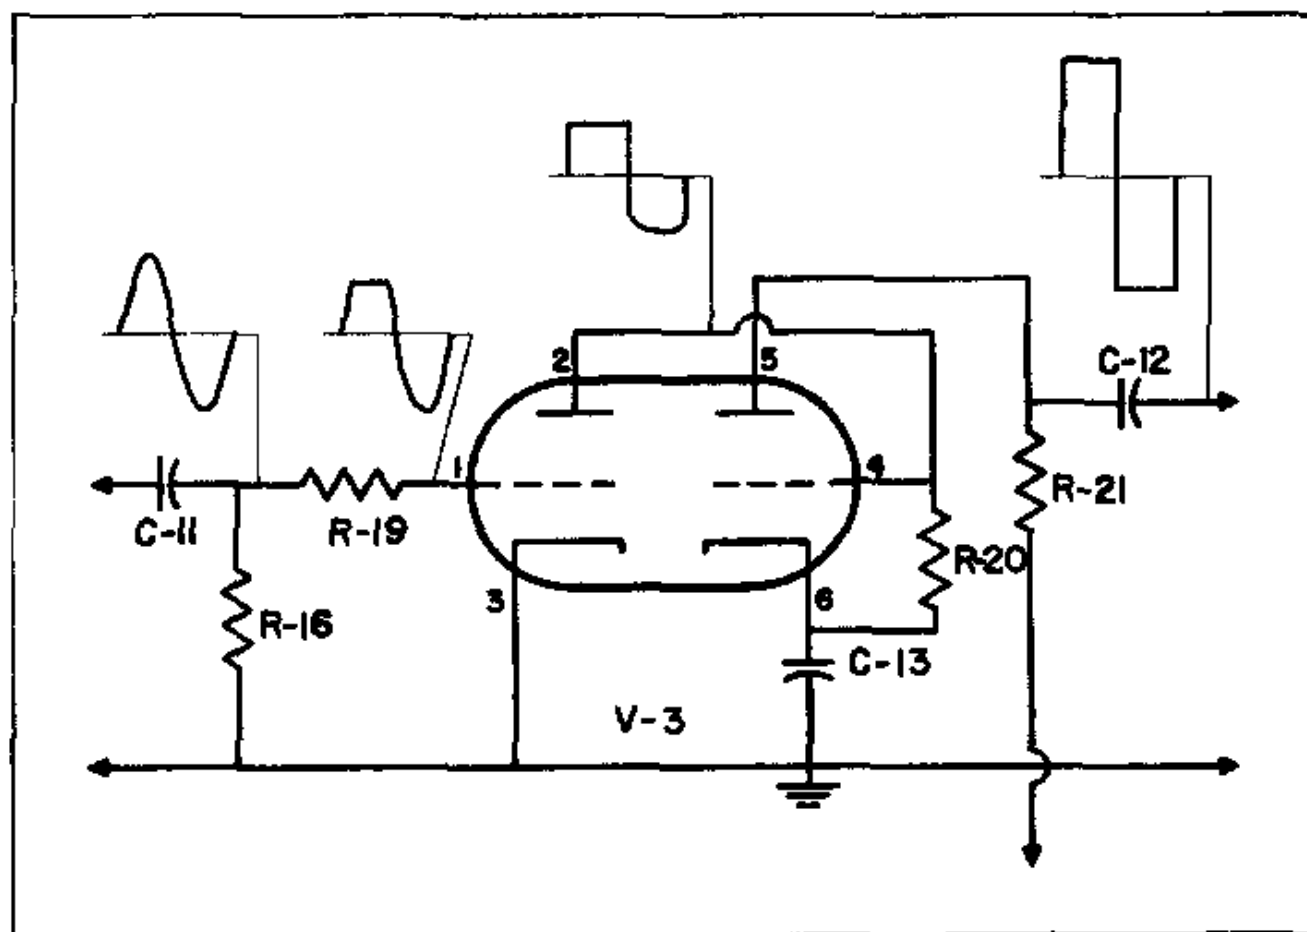

FIG. 13
**THE SQUARE WAVE SHAPING CIRCUIT:** (See Fig. 13) The square wave is formed from the sine wave output of the oscillator section. The sine wave is fed to the grid circuit of V3 (left-half), where grid limiting occurs. This is due to the flow of grid current through R19 on the positive half-cycles, causing a voltage drop across R19 opposing the original signal voltage. As this opposing voltage increases with increasing positive signal, clipping occurs and the waveform at the grid is as shown. While the grid waveform is independent of cathode-plate conduction through the tube, the plate waveform is not. As the grid voltage dips below the cut-off point on the negative half-cycles, cut-off limiting occurs and the negative half of the plate waveform is flattened. The right half of V3 follows the plate of the left half. In this section, the rounded bottom of the wave is clipped, and the resulting square wave amplified. The squareness of the wave is increased in both sections of the tube due to the non-linear tube characteristic.